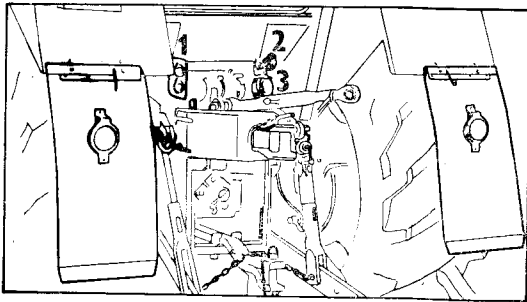

Fig. 28
1. Quick couplings (Fig. 28/1).
2. Head for coupling the trailer hose of the brake air container (Fig. 28/2).
3. Socket for trailer lightening (Fig. 28/3).